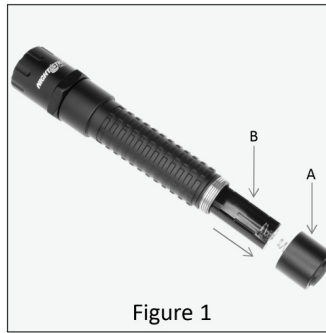

Figure 1
1. Remove the Tail Cap Switch (Figure 1-A) and the CR-123 Battery Carrier (Figure 1-B). NOTE: Keep the Tail Cap Switch for future use if this light is to ever be converted back to a conventional Tactical Flashlight.